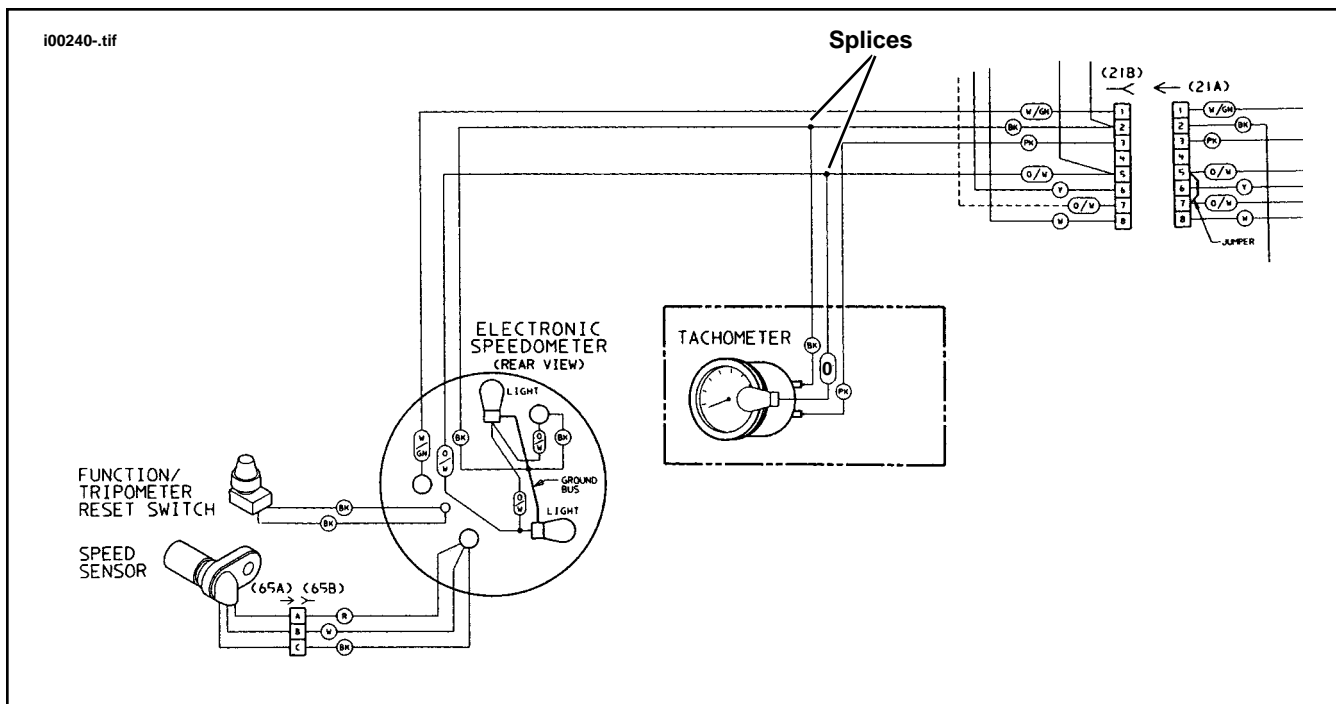

Figure 2. Tachometer/Speedometer Wire Splices and Terminal Connections [21B, A]
2. 1995 MODELS, DISCONNECT MAIN WIRING HARNESS 8-PLACE CONNECTOR [21B, A] (FIGURE 2)
3. 1995 MODELS, REMOVE SPEEDOMETER LEADS FROM 8-PLACE CONNECTOR [21B, A] (FIGURE 2)
- 3a. See Figure 2 and Service Manual wiring schematic. Pull the following wires and terminals out of connector [21B].
- 9b. See Figure 2. Remove tape from wires. Insert terminals into 8-place connector as follows: